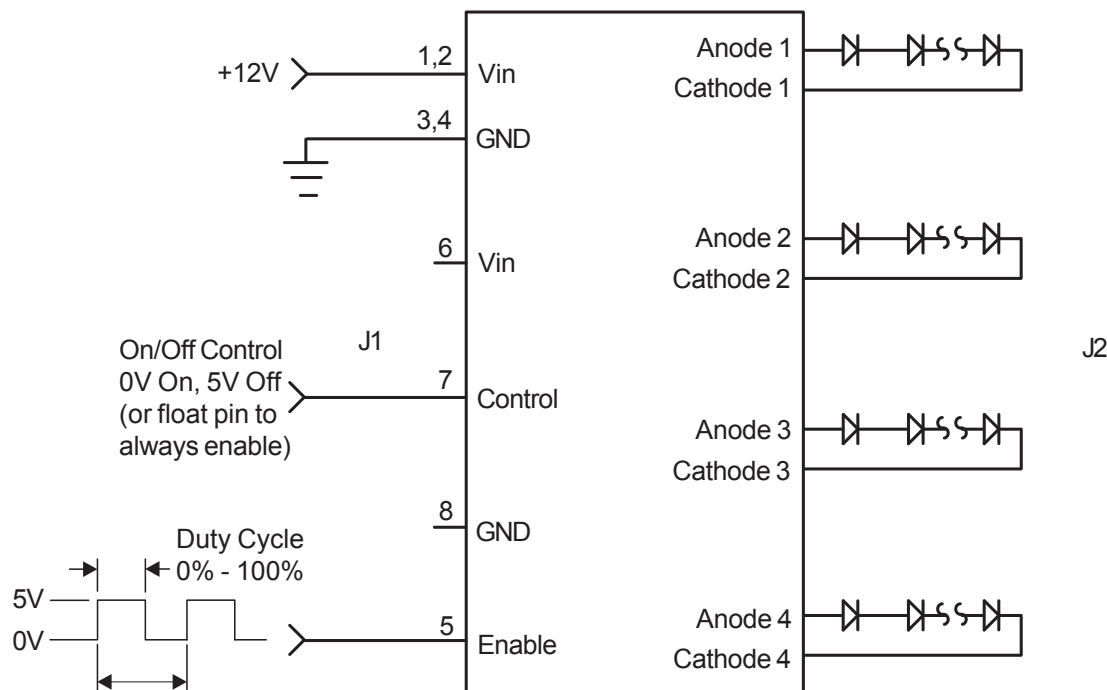

Figure 2
- OPERATION: External PWM configuration as shown in Figure 2 allows the user to control display brightness with an externally generated PWM signal. The user is responsible to provide the PWM signal. A dimming ratio up to 5000:1 is possible with this configuration.